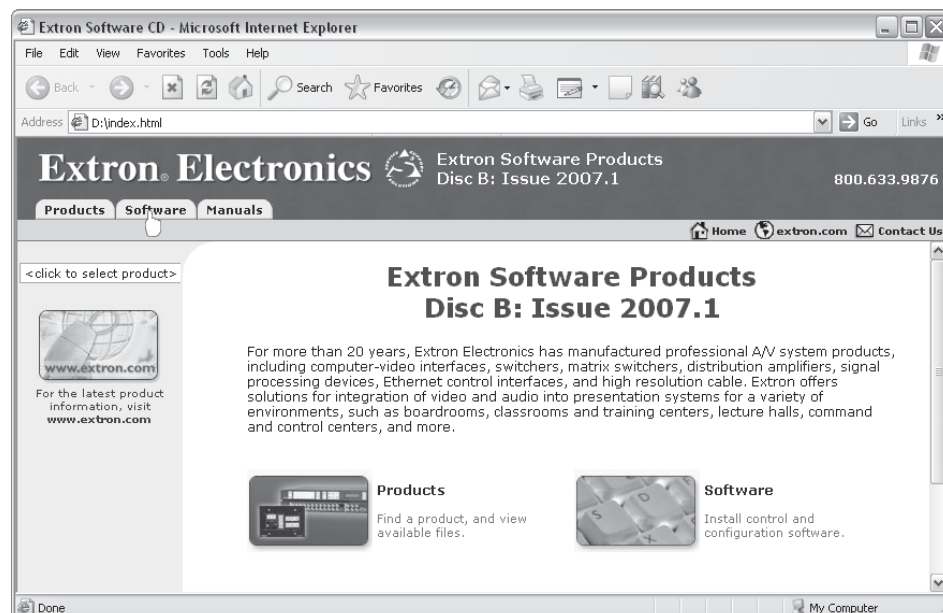

Figure 4-2 — Software CD window
The Extron software CD window appears (figure 4-2).
2. Click the Software tab (figure 4-2).